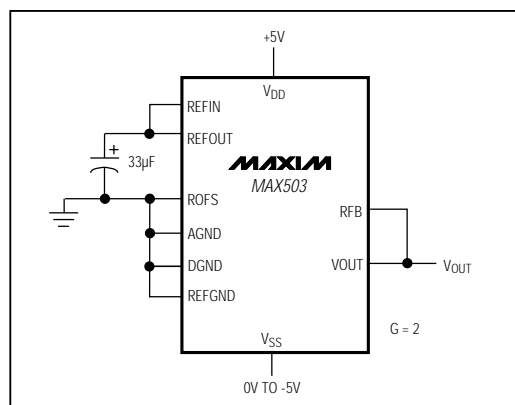

Figure 10. Unipolar Configuration (0V to +4.096V Output)
A 0V to  $2V_{\text{REFIN}}$  unipolar output range is set up by connecting ROFS to AGND and RFB to VOUT (Figure 10). Table 4 shows the DAC-latch contents vs. VOUT. The MAX503 operates from either single or dual supplies in this mode. In this range,  $1\text{LSB} = (2)(V_{\text{REFIN}})(2^{-10}) = (V_{\text{REFIN}})(2^{-9})$ .